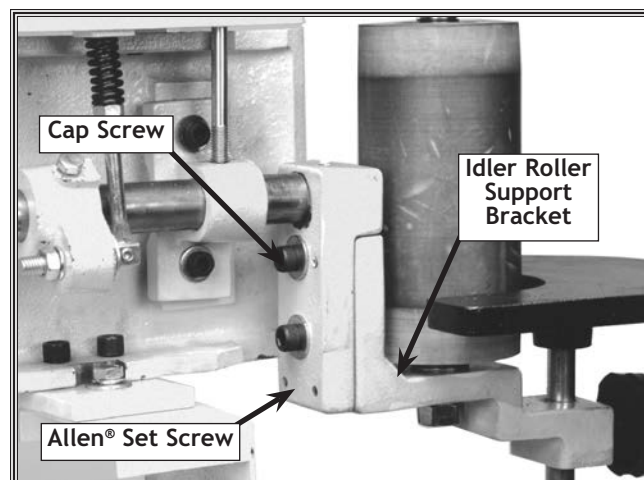

Figure 32. Roller block bracket and Allen® set screws.
3. With the sander unplugged, loosen the two $\frac{3}{8}$ "-16 X $1\frac{1}{2}$ " cap screws. See Figure 32.
4. While you rotate the sanding belt in the counterclockwise operating direction, alternately adjust the four Allen® set screws to tilt the idler roller and roller support bracket inward or outward in very small increments. See Figure 32. By tilting the idler roller this way, the belt will track horizontally.
5. When the belt tracking is not diagonal and is horizontal, tighten the the two cap screws. See Figure 32.